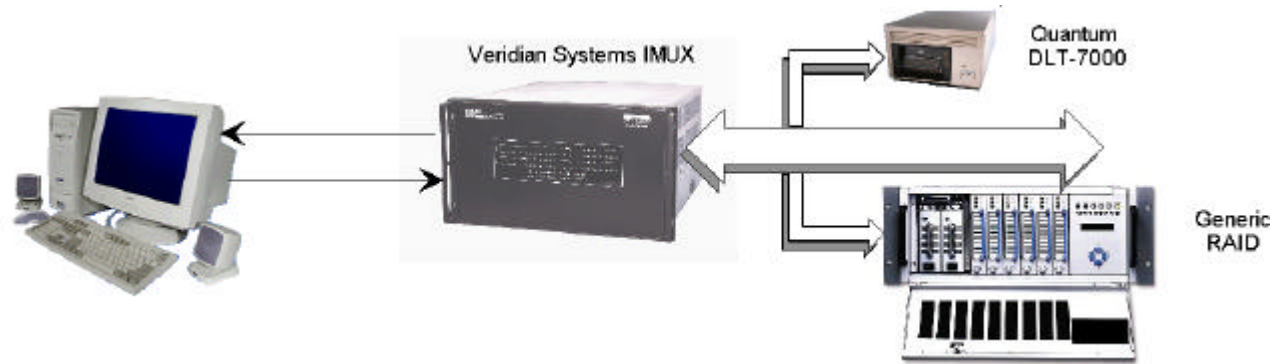

Figure 4: System Components with Fibre Channel
To support Fibre Channel in the IMUX and the personal computer (PC), minor system integration was used to support the PCI card in the PC. Additional integration was required for the PMC module that connects to the IMUX SBC. See Figure 4 below. (The IMUX runs pSOS, a real-time kernel that required the addition of COTS Fibre Channel support.)